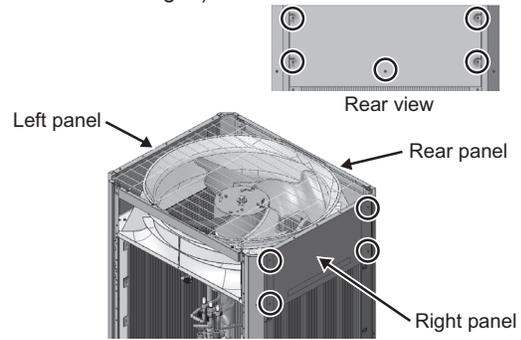

Fig. 5
(5) Remove the top panel except the front panel. (Four screws on the left and right each, and five screws on the rear: Fig. 5)